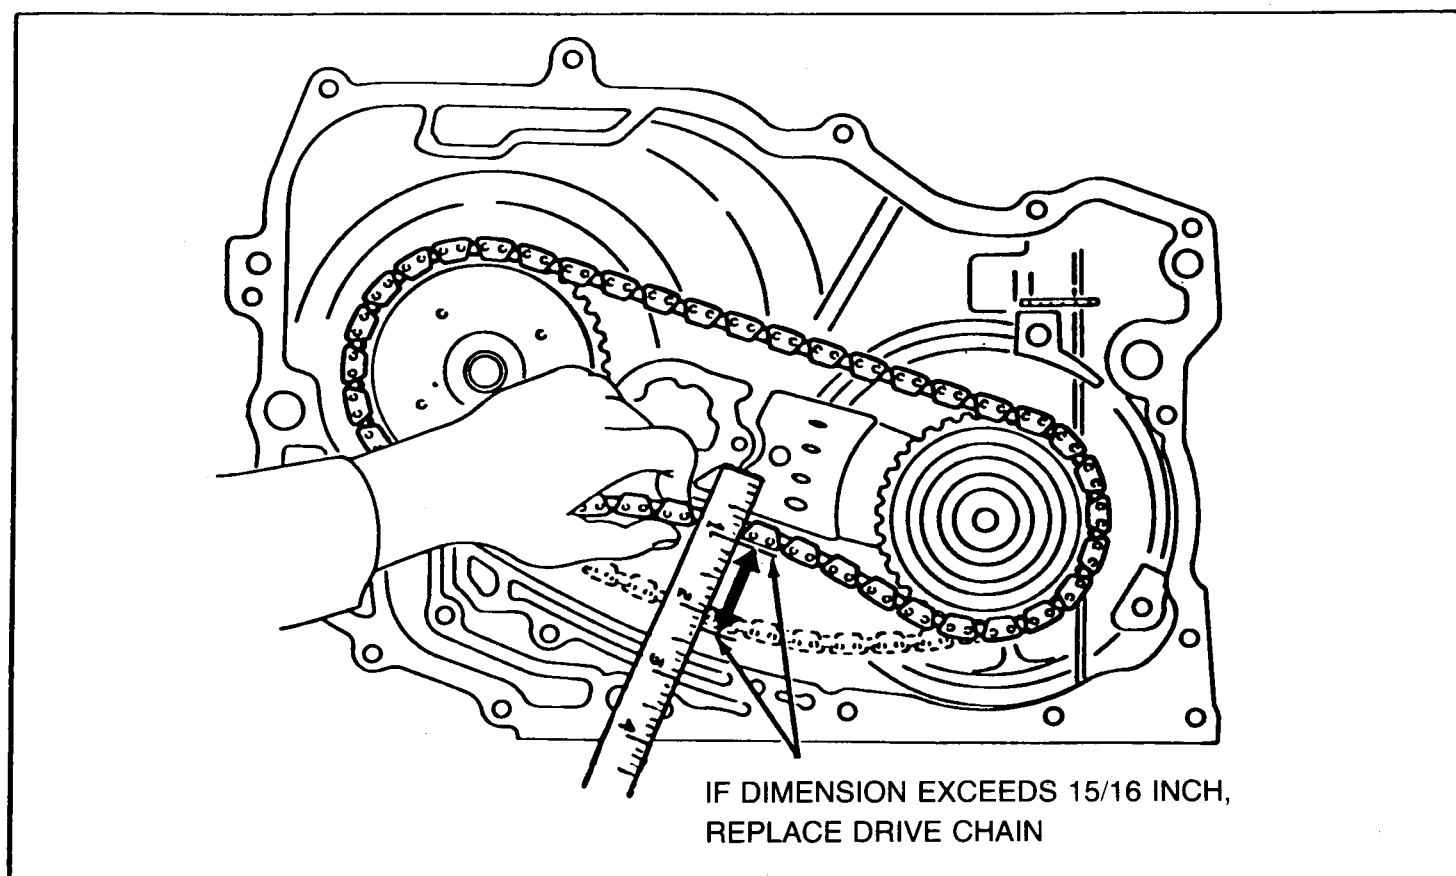

Figure 49
- 1) Midway between the sprockets and at right angles to the chain, push the slack of the chain up until finger tight (Figure 49).
- 2) Lay a ruler on the face of the case and line up the inch mark with the outside edge of the drive chain (Figure 49).
- 3) Push down in the same manner until the slack is finger tight, while holding the ruler down on the case face in the same position that you started (Figure 49). If this dimension exceeds 15/16 inch, replace the drive chain.